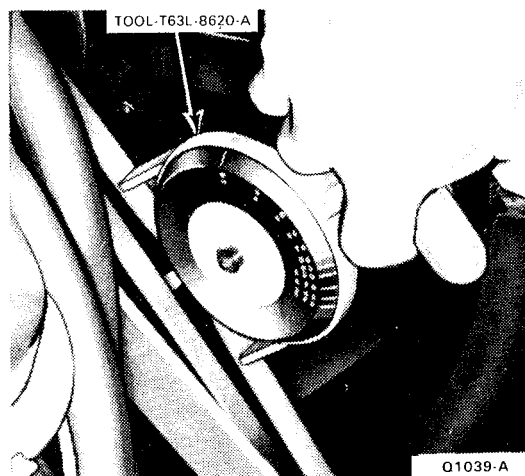

FIG. 3 Checking Drive Belt Tension
1. Install the belt tension tool on the drive belt (Fig. 3) and check the tension following the instructions of the tool manufacturer.